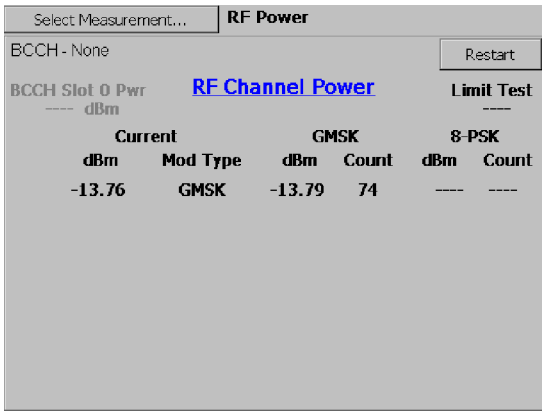

Figure 3-35: GSM/EDGE RF Power with BCCH turned off
- **Off (no frame sync):** Turns off BCCH frame sync, causing the YBT250 to attempt to acquire slot sync by using the power envelope ramps (edges) of the received signal. The YBT250 then measures one randomly-chosen slot. Figure 3-35 shows a typical RF Power measurement with BCCH set to Off.